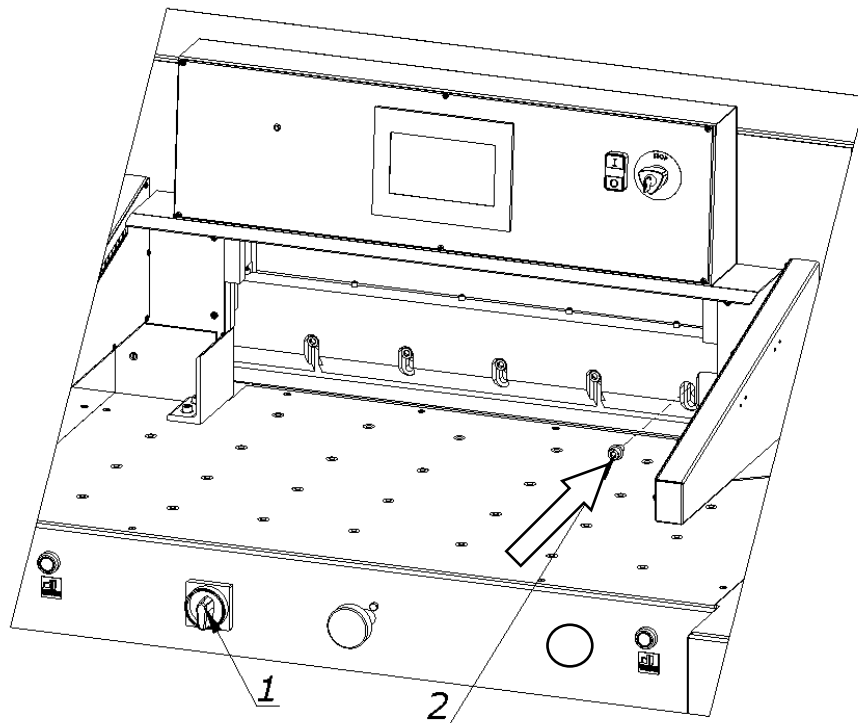

Figure 34.
8.1.2.10. Switch off the power supply of the electrical system by turning the main switch knob 1 (fig. 34) to the "0" position
8.1.2.11. Screw in the bolt 2 lightly (Fig. 34)